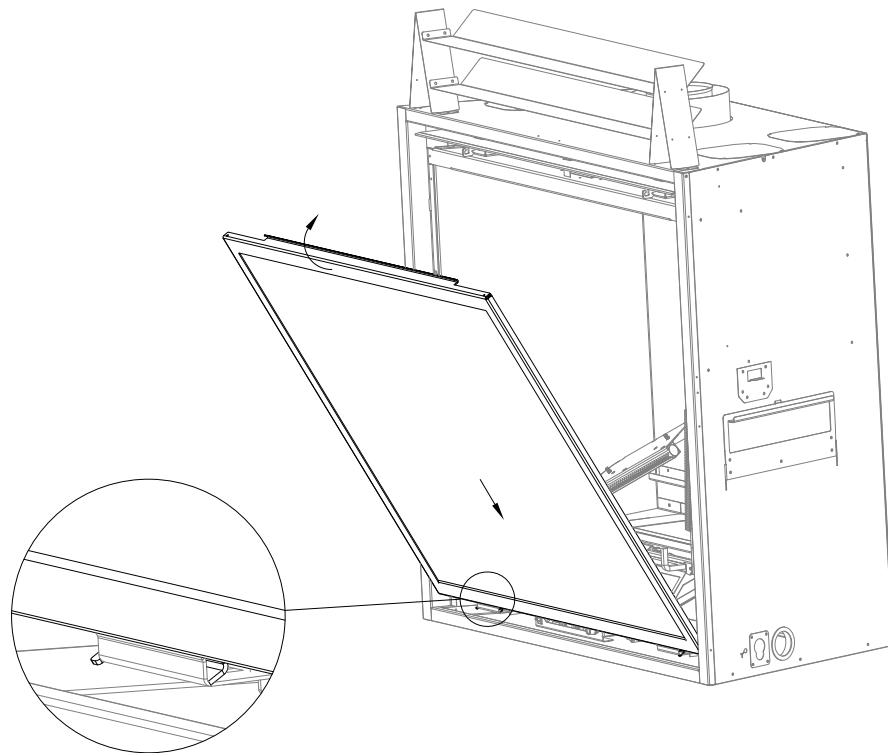

Figure 9.1 - Glass Frame Installation
1. Tilt the top of the glass frame assembly as shown in Figure 9.1. Align the slots on bottom of the glass assembly on top of the rails at the bottom of the firebox while tilting the top of the glass assembly into position.